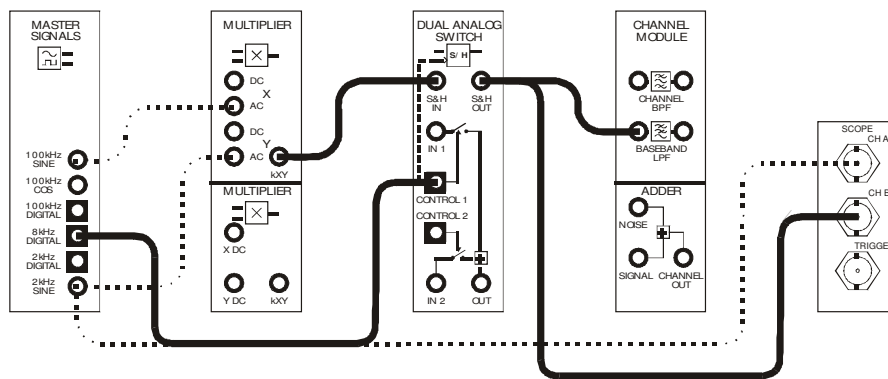

Figure 3
24. Modify the set-up as shown in Figure 3 below.